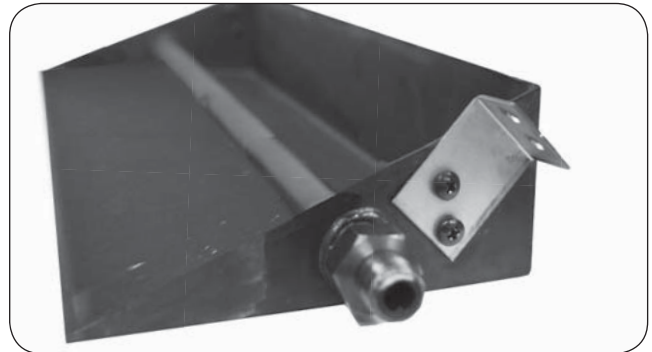

Fig. 5-1 Install pilot bracket
1. The pilot assembly comes with an L-shaped mounting bracket. Remove the two phillips screws holding the bracket in place, then use them to fasten the bracket to burner pan (short side toward the back of the pan) using the pre-drilled holes in the pan (see Fig. 5-1).